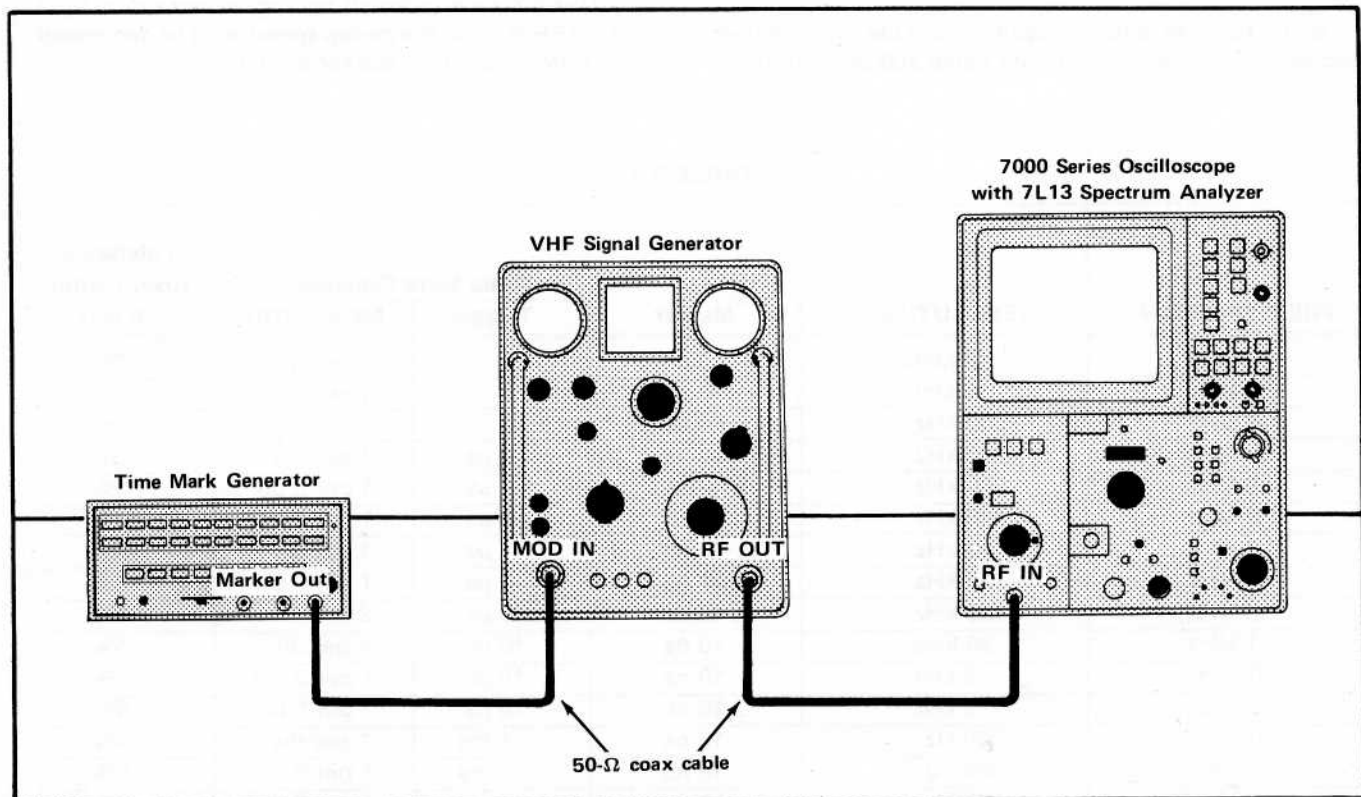

Fig. 3-10. Test equipment setup to check TIME/DIV accuracy.
b. Apply a 100 MHz, -40 dBm signal from the VHF signal generator to the RF Input of the 7L13 and tune the CENTER FREQUENCY to the signal. Apply .1 ms time markers from the Marker Output of the time mark generator to the External Modulation input of the VHF signal generator (see Fig. 3-10) so the signal generator output can be modulated by time markers.